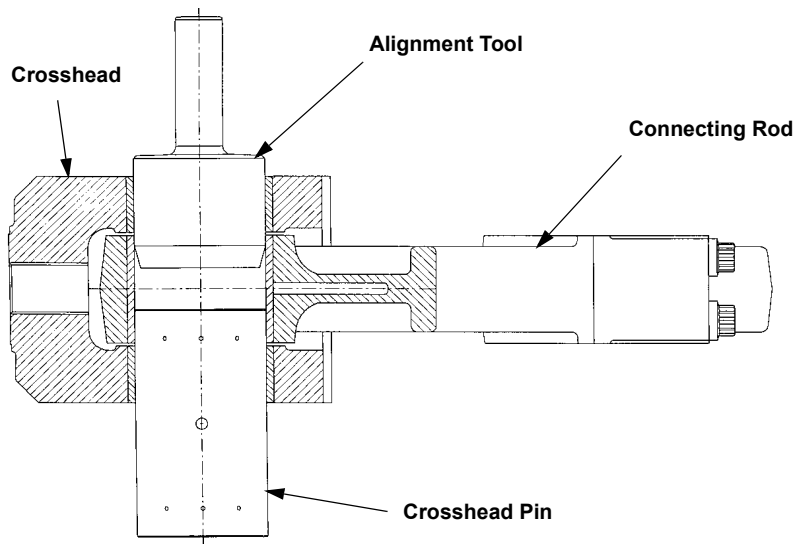

FIGURE 5-7: CROSSHEAD PIN ALIGNMENT TOOL (B-1989) - TYPICAL
5. Lift the crosshead end of the connecting rod and turn the crankshaft to its outer dead center position to locate the connecting rod in position and insert the crosshead pin. Use the Crosshead Pin Alignment Tool shown in Figure 5-7: on Page 5-12 on the opposite side of the crosshead to assist the insertion of the pin. Lubricate the crosshead pin and alignment tool with oil prior to installing. Install the crosshead pin end-plates, through cap screw, and a new lock nut. Tighten the through cap screw and lock nut to the value listed in Table 1-15 on Page 1-25. (TIP: If it is difficult to insert the pin, chill it first.)